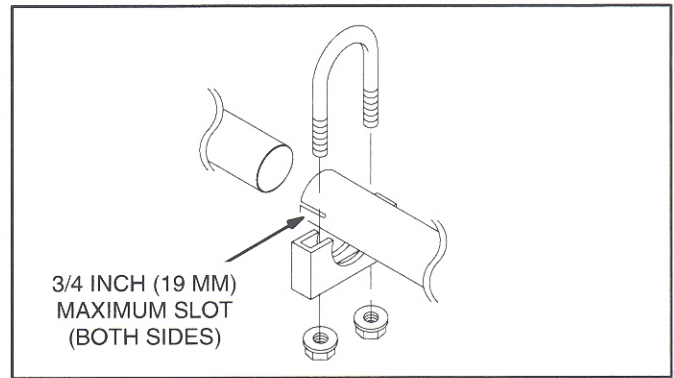

FIGURE 6. EXHAUST TAIL PIPE CONNECTIONS
2. Use U-bolt muffler clamps (available from Onan) to connect sections of tail pipe. Overlapping pipe should be slotted (Figure 6).